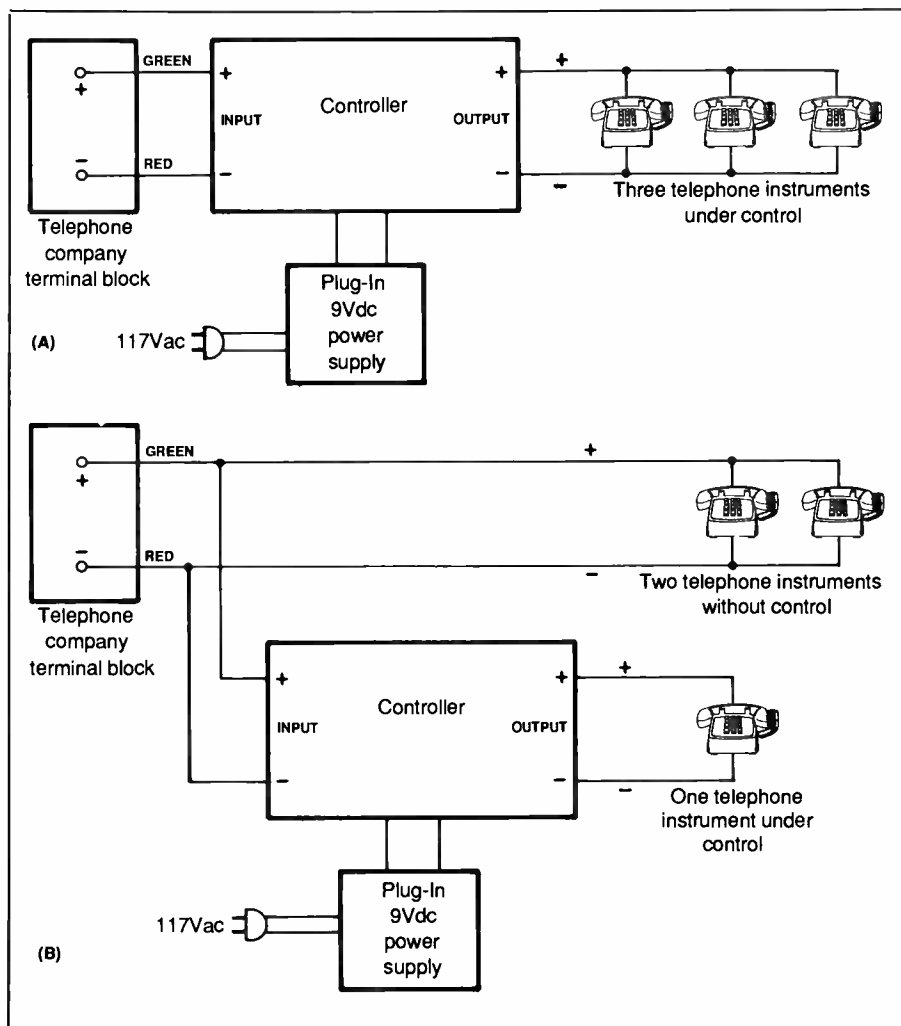

Fig. 5. Installation details showing all telephone extensions (A) and one instrument (B) under 10-minute call control.
As mentioned earlier, the 10-Minute Call Monitor is designed to be hard-wired into your telephone line, between the terminal block to which the telephone company's incoming line enters your premises and the telephone(s) you wish to have the project control. Figure 5 illustrates two possible methods of installation. In Fig. 5(A), the Monitor is installed so that all telephone instruments on that line or run are subjected to the 10-minute call limitation. Figure 5(B) shows the hookup arrangement when you want the project to control only one instrument. When you wire the project as shown in Fig. 5(B), only the one phone will be controlled by the Monitor; all others will operate with no time restriction.
telephone systems, the green wire is positive and the red negative. However, to be certain, check the polarity of your particular telephone line with a dc voltmeter that's capable of measuring at least 50 volts. Follow the circuit polarity as indicated in Fig. 5. Should you inadvertently install the project in the wrong polarity, your phone won't work at all.